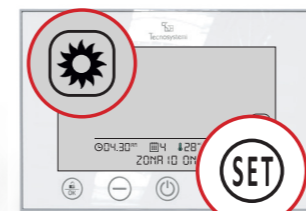

Fig.11
5.3 Heating . With the chrono master unlocked, enter setting mode, and use the key to choose the symbol and confirm with the key. If the system features the IR communication protocol and the IR remote control is active, check that value 23 flashes in the centre of the LCD display (Fig. 11).